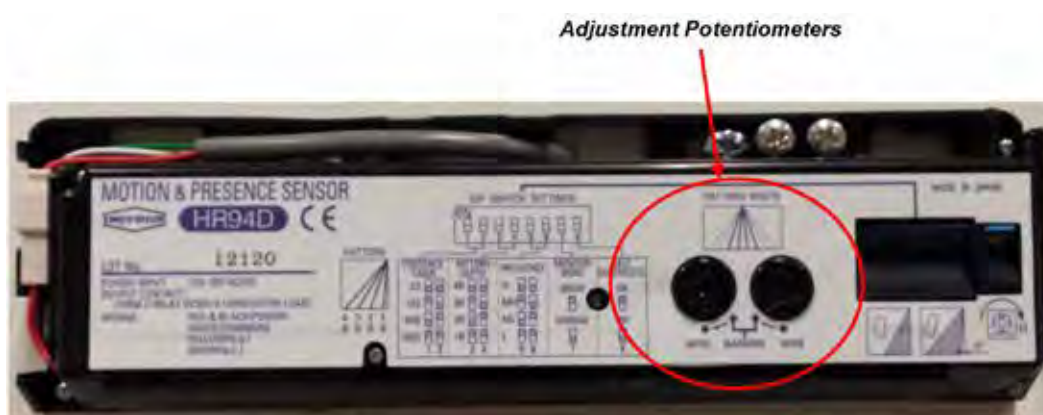

Figure 50 - Personnel Sensor Beam Width Adjustment Potentiometers
1. Access the two potentiometers under the sensor's front cover as illustrated in Figure 50 below.